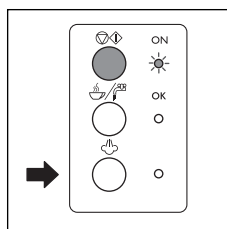

fig. 21
6. When the required temperature is reached, interrupt steam delivery by rotating the steam knob clockwise. Then press the steam button (fig. 21).